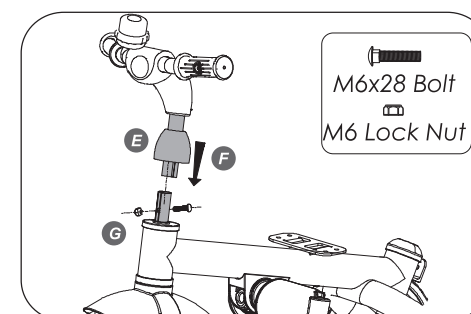

Fig. 3
4. Use the Assembly Wrench provided to tighten the M6 Lock Nut. **DO NOT** over-tighten (See Fig. 3).